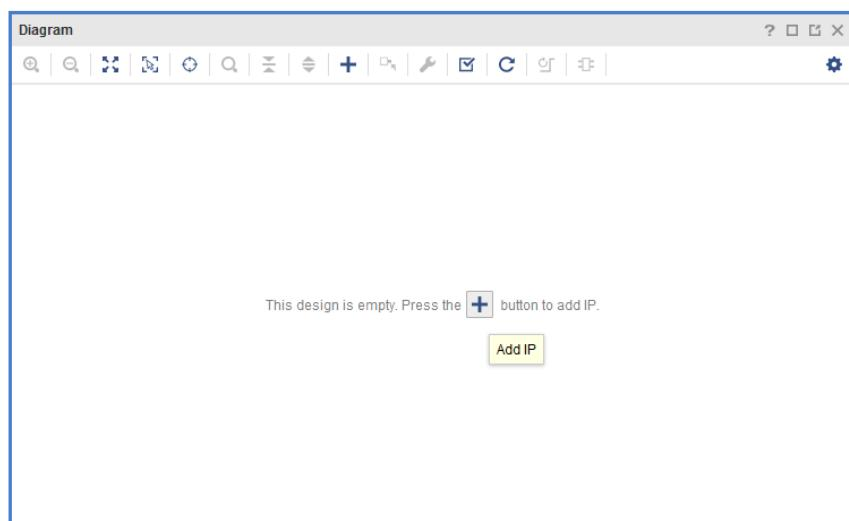

Figure 12.42: Add IP link
- Use the **Add IP** link in the IP Integrator canvas, see Figure 12.42, or